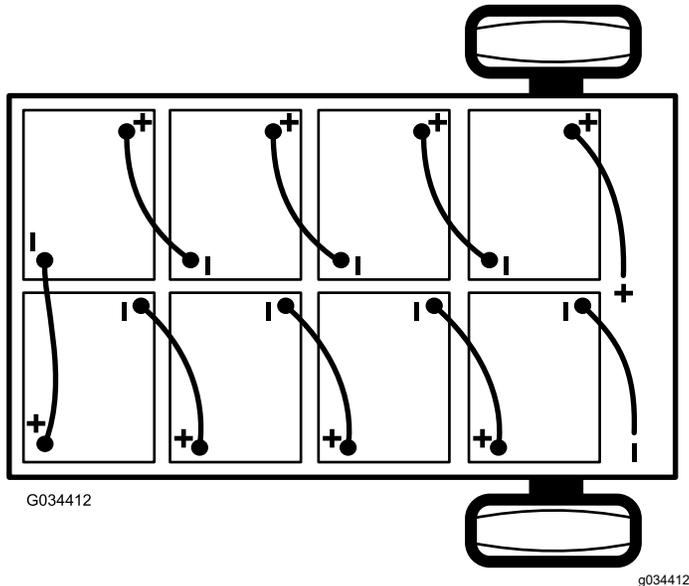

Figure 42
2. Disconnect the main negative-battery cable (black) that connects the bank of batteries to the ground point of the machine (Figure 42).
2. Connect the main positive-battery cable (red) between the bank of batteries and the machine (Figure 42).
3. Connect the main negative-battery cable (black) between the bank of batteries and the machine (Figure 42).
Note: Pay attention to the battery polarity when installing the new batteries (Figure 42).
6. Connect the batteries together as shown in Figure 42 with the battery-interconnect cables that you removed in step 1.